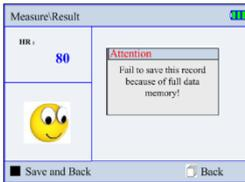

Figure 4-14.
2. After the quick measurement by built-in electrodes, the device will save the data automatically, and it prompts “The result is saved successfully, as shown in figure 4-14. Press the “■” OK key or “⏪” back to return the default menu screen. If the “⏪” back key is pressed or no key operation after 6 seconds, return to default menu screen directly and the current measurement data won't be saved